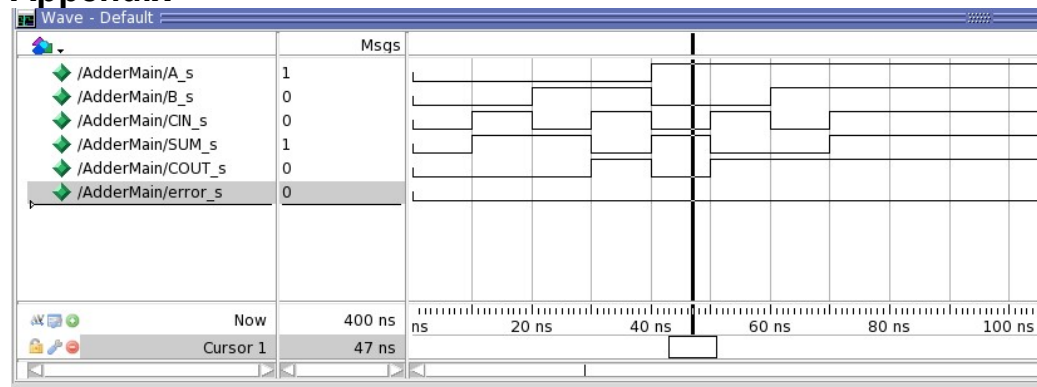

Figure 1b: Waveform of corrected design.
*This corrected design is again simulated and the waveform is shown in figure 1b. We can see from the waveform that the error signal is zero throughout the operation.*